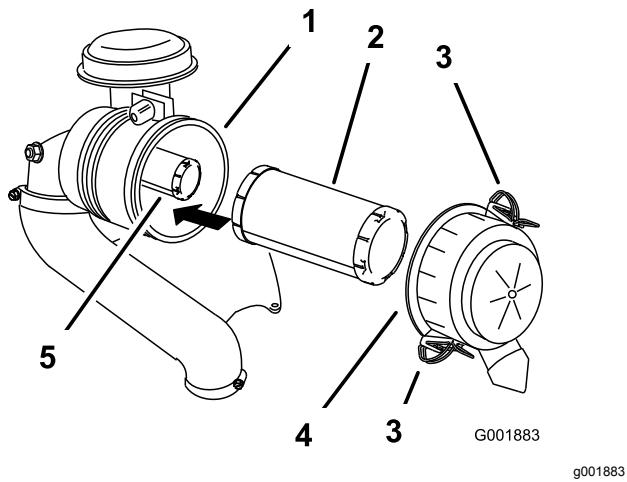

Figure 29
3. Release the latches on the air cleaner and pull the air-cleaner cover off the air-cleaner body (Figure 29).
5. Gently slide the primary filter out of the air-cleaner body (Figure 29).
2. If you are replacing the safety filter, carefully slide it into the filter body (Figure 29).
3. Carefully slide the primary filter over the safety filter (Figure 29).
4. Install the air-cleaner cover with the side indicated as up facing upward and secure the latches (Figure 29).